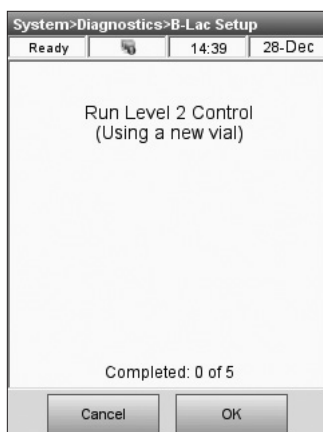

Fig. 8-39 Run Controls
- After each level of OPTI Check is run, you will return to this screen (Fig. 8-39). You will not receive a results screen or printout until the setup procedure is complete. Continue to run the OPTI check with the same lot of cassettes and OPTI check until prompted. You may run from 5 to 8 OPTI checks.